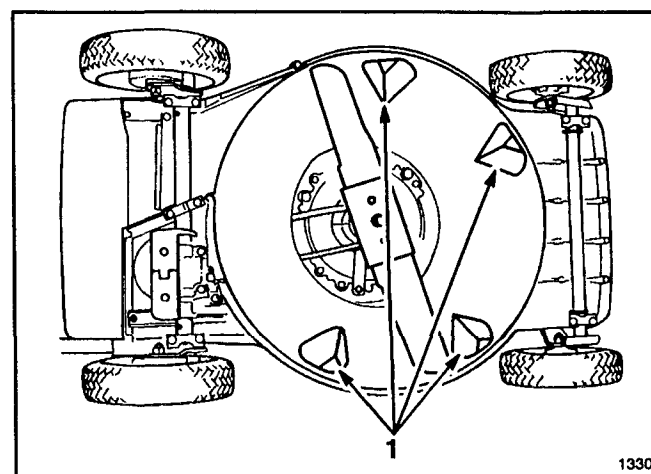

Figure 33
Keep underside of mower housing clean. Be especially careful to keep kickers free of debris (Fig. 33).
6. Tip mower on its left side (Fig. 33).